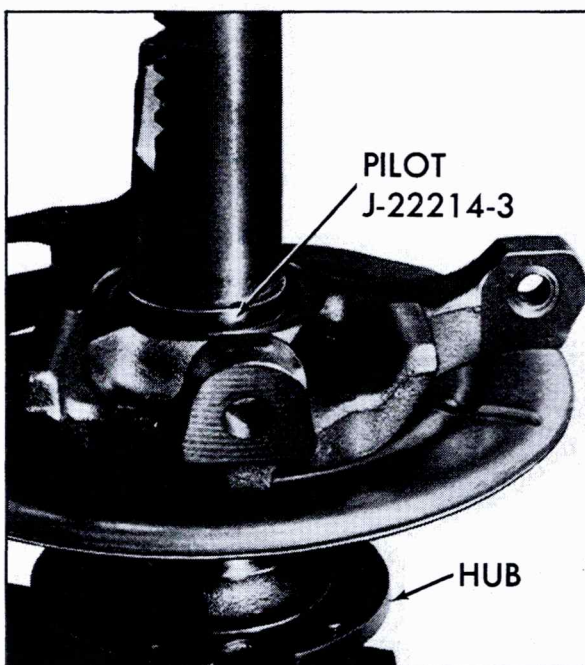

Fig. 3-41 Installing Hub In Knuckle
12. Install Large Pilot, J-22214-3, through steering knuckle so that pilot seats on bearing, Fig. 3-41, and press knuckle assembly on hub.